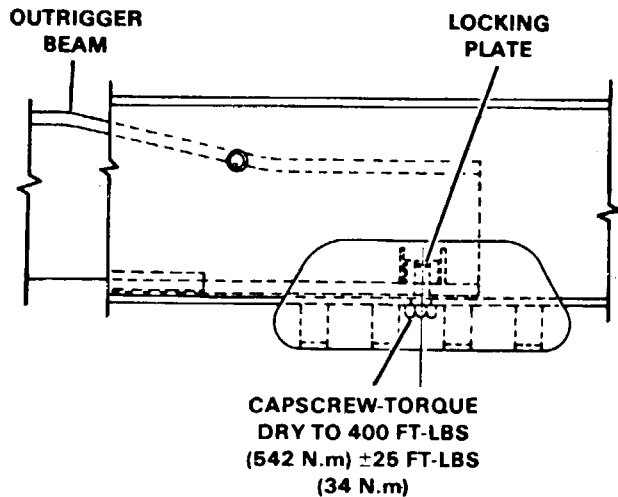

Figure 2-8. Outrigger Box and Beam Connection
8. Secure the outrigger beam to the outrigger box as shown in Figure 2-8. Torque dry to 400 ft-lbs (542 N.m) +25 ft-lbs (34 N.m).